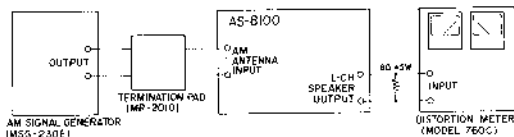

Fig. 15
- 6) Repeat adjustments outlined in items 2) through 5) above two or three times until perfect reception is obtained in the reception frequency range of 525 to 1530 kHz.
10. AM TUNER TRACKING ADJUSTMENT (See Fig. 15)